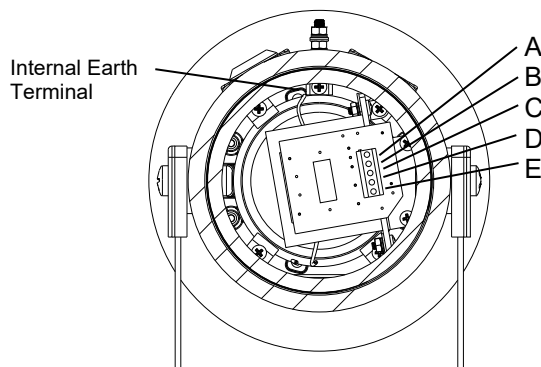
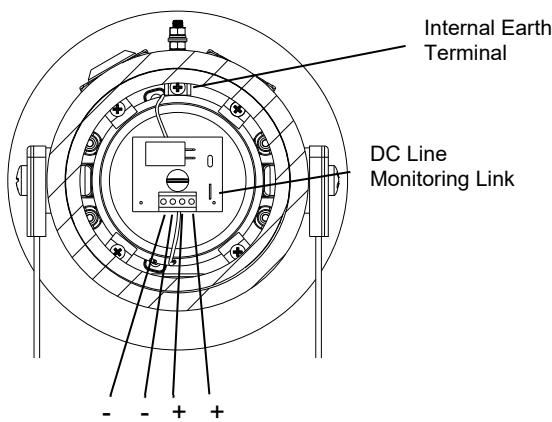

Fig. 3 Line in Terminals
Fig. 4 Low Impedance Terminals
- Fit an M20x1.5 suitably certified cable gland or 1/2" NPT conduit into the corresponding entry in the enclosure and connect the field wiring to the appropriate loudspeaker terminals as shown in section 6 / Fig 3 (70V Line In) or section 7 / Fig 4 (Low Impedance) of this manual. The power supply terminals on the low impedance units are duplicated so that units may be connected in parallel. An end of line monitoring resistor may be fitted to either type
D1xL2 and D1xL1 8 ohm and 16 ohm low impedance loudspeakers have dual input terminals on the PCB assembly for input and output wiring. A cable of up to 4.0mm2 can be connected to each terminal. If DC line monitoring is used cut the link on the board (see Fig. 4).
Internal earth connections should be made to the internal Earth terminal (see Fig. 3 and 4). It should be fitted to the internal earth point using a ring crimp terminal to secure the earth conductor.
On low impedance units the end of line resistor used must have a minimum resistance value of 2k ohms and a minimum wattage of 0.5 watts or a minimum resistance value of 500 ohms and a minimum wattage of 2 watts. On the low impedance units care must be taken with the polarity of the monitoring voltage. If an end of line resistor is fitted to a unit the links on the printed circuit boards of all loudspeakers in the line must be cut for the dc blocking capacitors to be in circuit in order to dc monitor the line (see Fig 4).